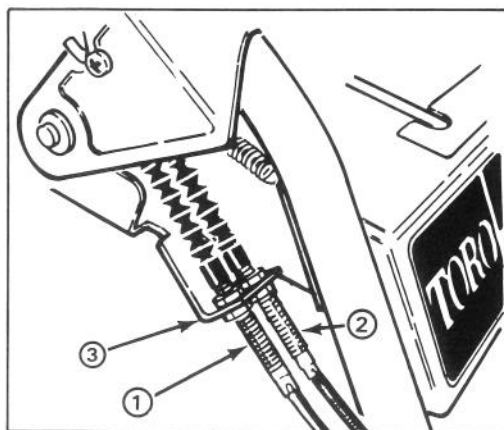

Figure 18
3. Loosen upper jam nut securing auger/impeller cable to mounting bracket (Fig. 18).
ADJUSTING TRACTION DRIVEBELT (Fig. 18)
8. On control cable which corresponds to belt being replaced, loosen jam nuts securing cable to bracket (Fig. 18). Cable must be free to slide in bracket when changing belt(s).